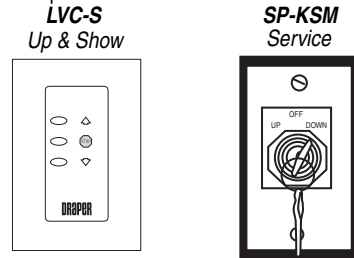

Figure 1
**Standard Single Station Low Voltage Control (See Fig. 1) (CE Approved)—**